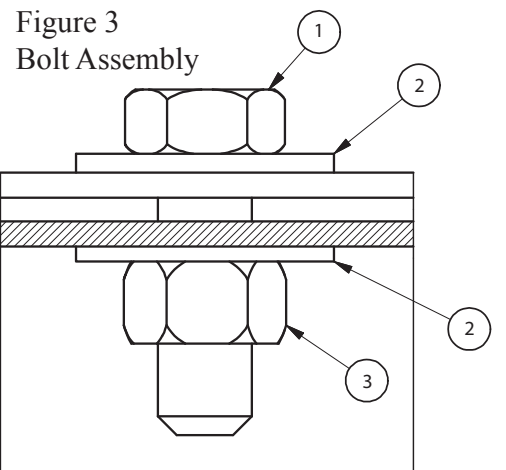
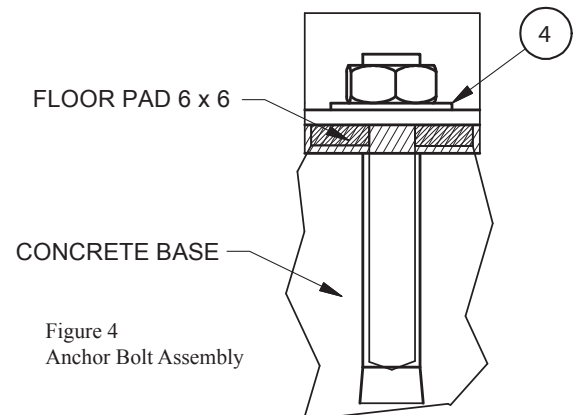

Figure 3
Figure 4
2. Align panel D up with the pre-drilled holes in the concrete. Slide panel C into panel D (see figure 2). This will form the back right corner of the storm shelter. Use eight (8) bolt assemblies (figure 3) to attach panel D to panel C. Use four (4) anchor bolt assemblies (figure 4) to secure panel D and panel C to the concrete.
3. Along the back wall of the storm shelter attach panel C to the previously installed panel D with eight (8) bolt assemblies. Use two (2) anchor bolt assemblies to secure panel C to the concrete.
4. Move to the right wall of the storm shelter and attach panel C to the previously installed panel C with eight (8) bolt assemblies. Use two (2) anchor bolt assemblies to secure panel C to the concrete.